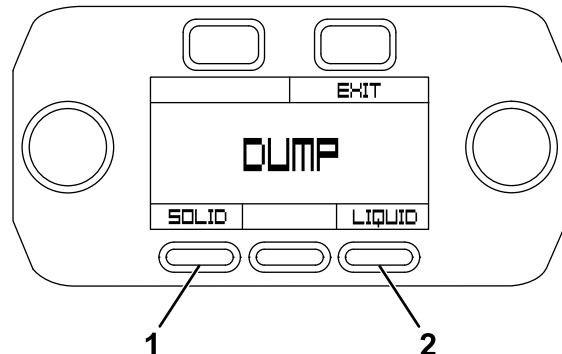

Figure 55
- On the dump screen, select which material you want the dump switch to dump (Figure 55). Press the Solid button to dump only the material in the spreader hopper. Press the Liquid button to dump only the solution in the tank. You can select and dump both materials at the same time.